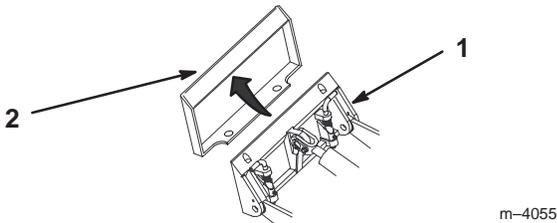

Figure 18
4. Position mount plate into the upper lip of the attachment receiver plate (Fig. 18).